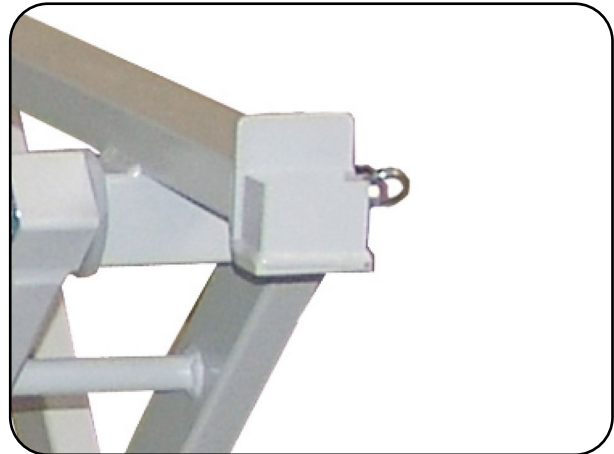
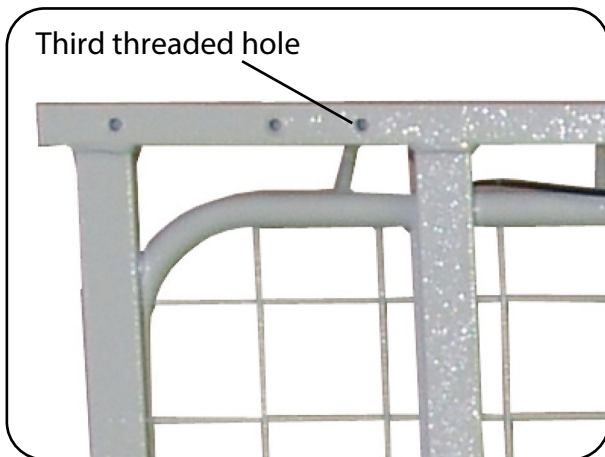
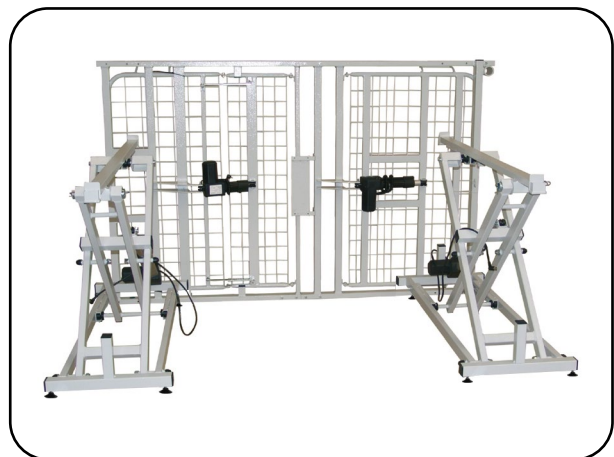

Fig. 6.1.05 – Support
Fig. 6.1.06 – Threaded hole on the bed surface
Fig. 6.1.07 – Positioning of the scissor lifts
8. Position the two scissor lifts so that they are located with the support (Fig. 6.1.05) at the distance of the third threaded hole (Fig. 6.1.06) of the installed bed surface (Fig. 6.1.07).